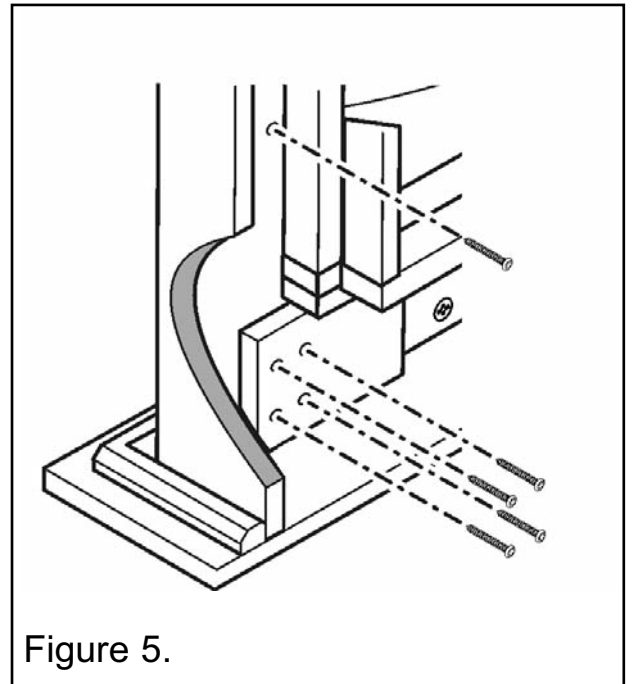

Figure 5.
- Secure the fascia to the surround legs using 10 screws (G) as in figure 5.